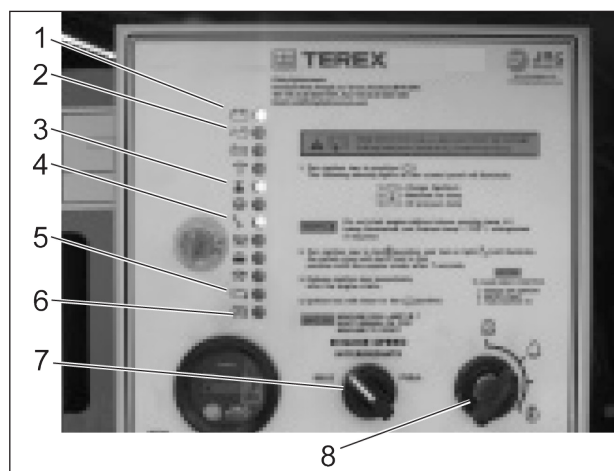
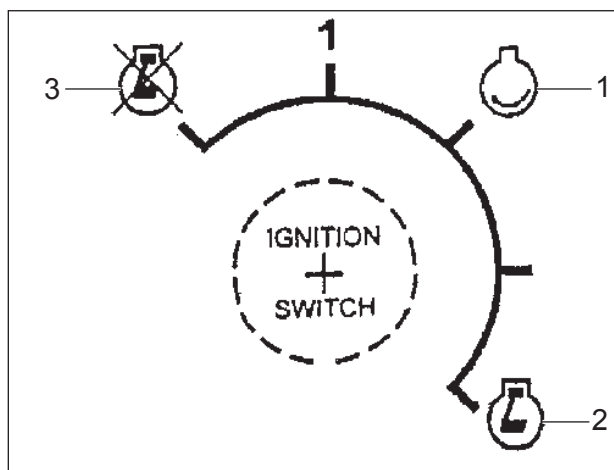

Figure 7.1 - Starter Control Panel & Throttle
Figure 7.2 - Key Positions
2. Place throttle (Item 7, Reference: Figure 7.1) at idle.
3. Turn the ignition key (Item 8, Reference: Figure 7.1) to position (Item 8, Reference: Figure 7.2), the "on" position
- A red light (Item 1, Reference: Figure 7.1) alternator.
- A red light (Item 2, Reference: Figure 7.1) oil pressure lamp
- A green light (Item 3, Reference: Figure 7.1) should illuminate indicating the machine can be run.
- A green light (Item 4, Reference: Figure 7.1) should illuminate indicating fuel on.
- Lights (Items 5 & 6, Reference: Figure 7.1) will light for 2 seconds, then extinguish.
4. Now turn the key to position (Item 2, Reference: Figure 7.2). Hold this position until the engine will crank and start after the warning beeper has sounded for approximately 7 seconds.
5. All the lights should extinguish after start-up (with the exception of the machine run and fuel on lamps). If the other lights remain illuminated or illuminate during operation, there is a fault relevant to that indicator. Return ignition key to (Item 1, Reference: Figure 7.2) immediately after the engine starts.
6. When stopping the engine, ensure all control levers are in neutral. Reduce engine speed gradually by adjusting the throttle lever. Then turn the key to position (Item 3, Reference: Figure 7.2) and the engine will stop.